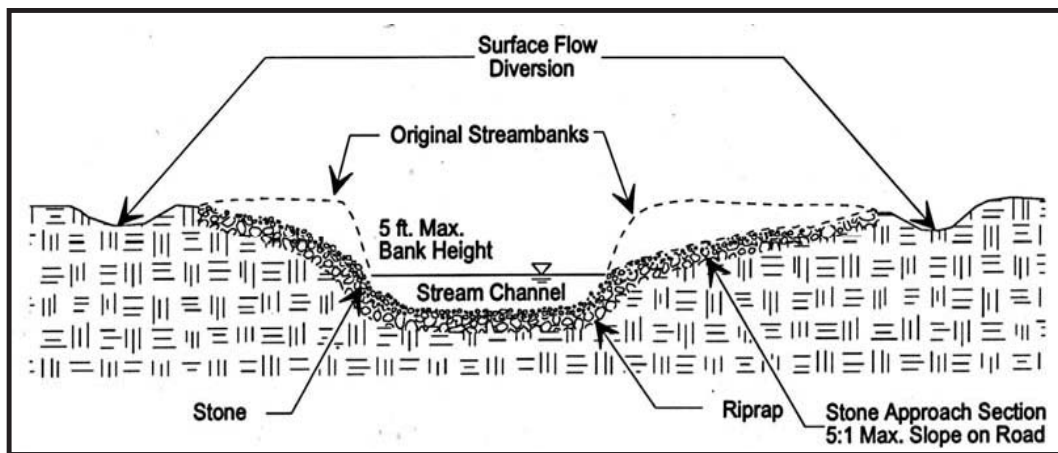

Figure 6.11 Typical low water stream crossing.
- Locate low water crossings only where normal flow is shallow (less than 3 inches deep) or intermittent, and where traffic is light. See Figure 6.11.